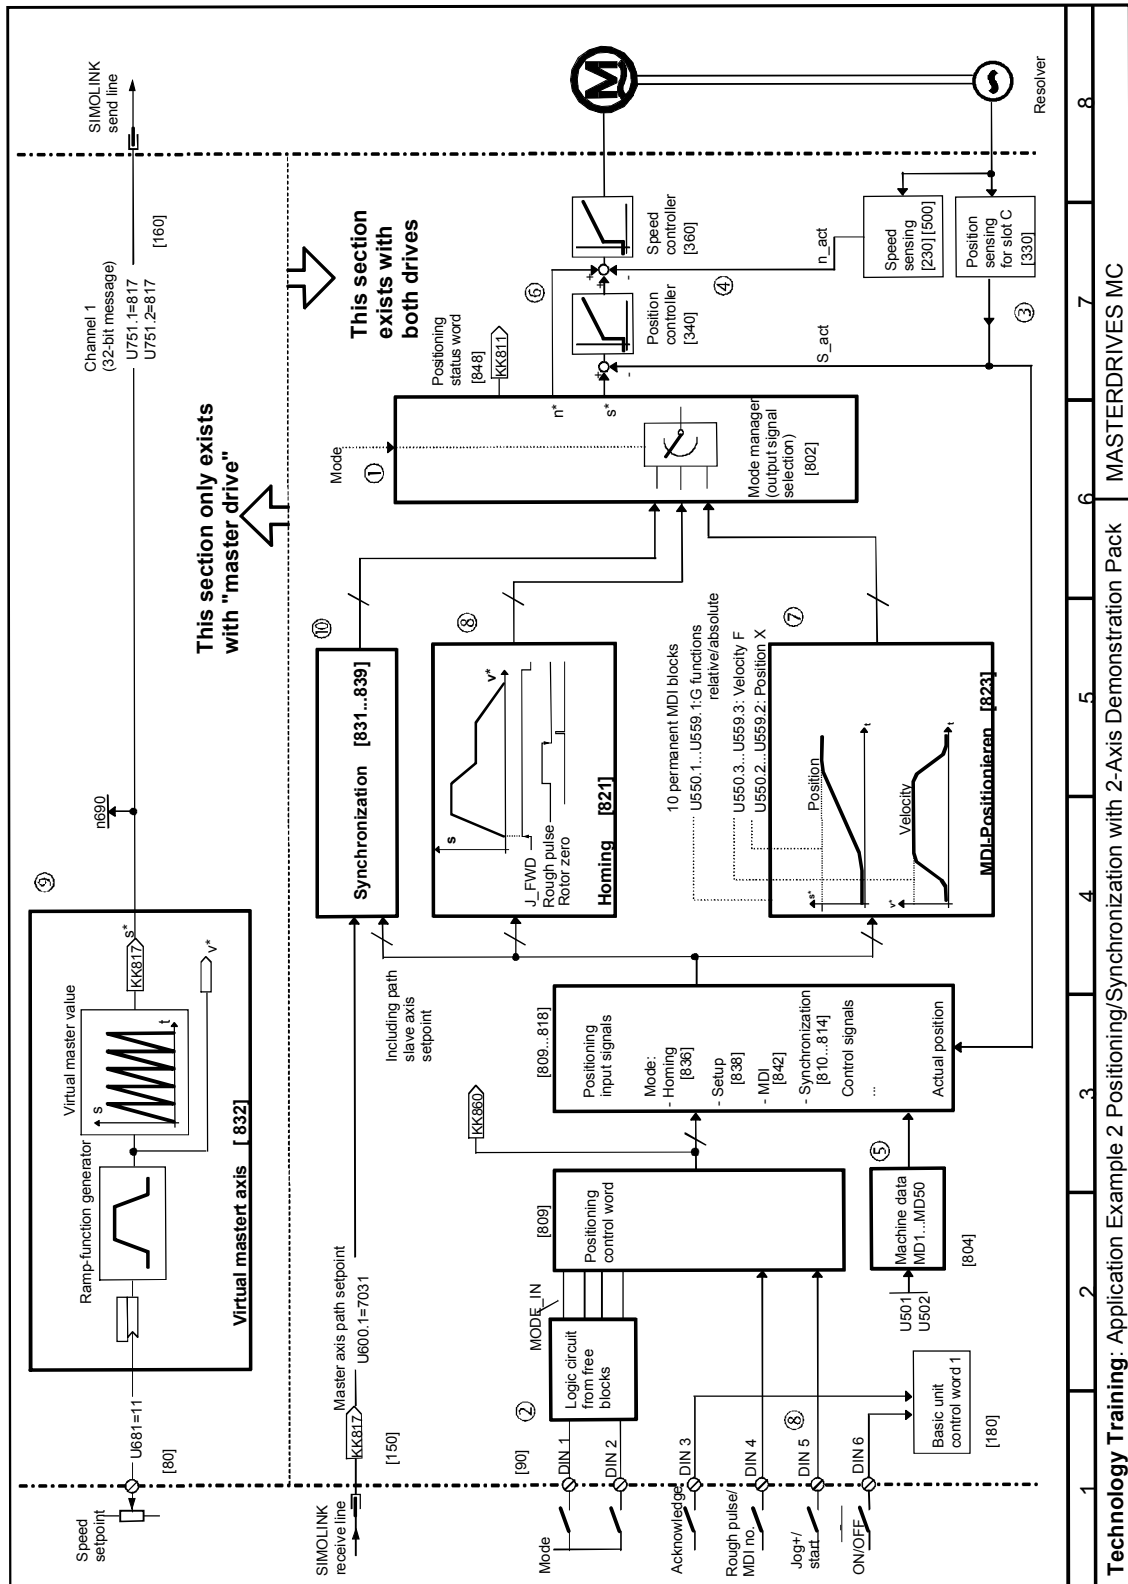

Fig. 9-45
The overview diagram in Fig. 9-45 shows how the technology functions are interconnected.
Fig. 9-45 shows the digital input assignments used in this example ②. The assignment of functions to individual terminals used here is arbitrary. The BICO technology (connector/binector technology) allows virtually any terminal wiring to be implemented.